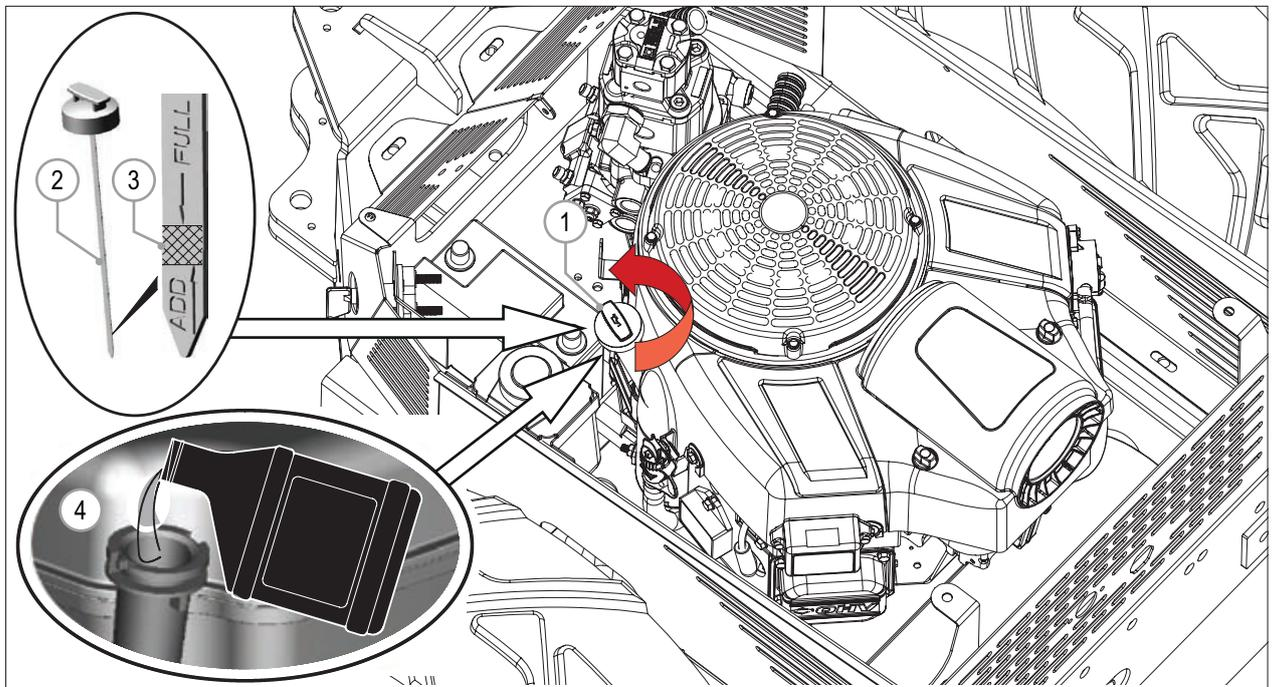

FIG. 40
- 4) Open the cap of the engine oil filler (FIG. 40 - Ref. 1)
- 5) Look for both the full and add oil lines (FIG. 40 - Ref. 3) of dipstick (FIG. 40 - Ref. 2). The correct oil level is between those two lines.
- 6) If the refill is needed, add oil (FIG. 40 - Ref. 4). It is important to add the correct type of engine oil as stated in the engine manual.